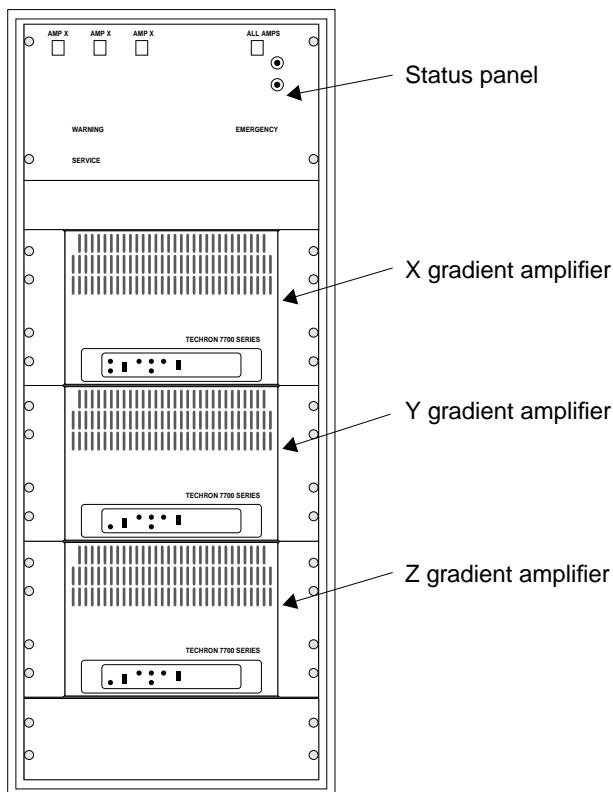

Figure 2. Microimaging Cabinet with Gradient Control System, Open Front View
1. The microimaging cabinet (see Figure 2) requires a three-phase, high-current power source. Verify that the main supply is 208 V/60 A, 240 V/50 A, 380 V/40 A, or 415 V/30A and is separate from the 20 A power line to the UNITYINOVA console.